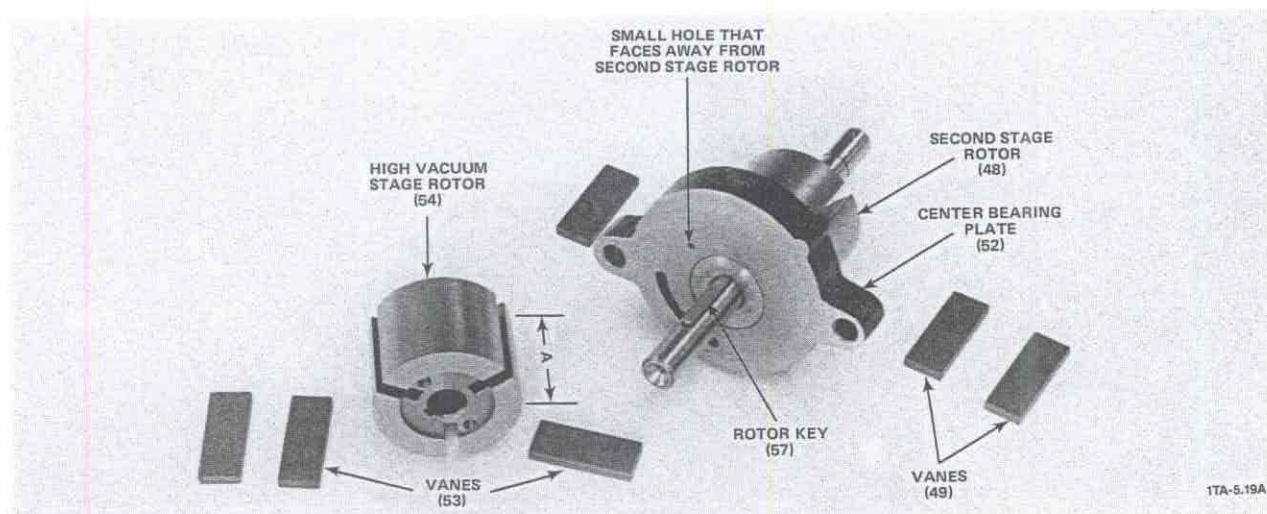

Figure 5-9. High Vacuum Stage Rotor Removed From the Shaft (D2A Pump Model Shown)
- C-18** Using small diagonal cutting pliers, pull the high-vacuum-stage rotor key (57) from the slot in the shaft (see Figure 5-9).
- C-19** Slide the center bearing (52) off of the shaft (see Figure 5-9).
- d. **For D30A, D60A, and D90A pump models only,** clean the brass air nozzle screw (66) located inside of the intake tube portion of the high vacuum pump cylinder (55).
- e. The tiny silencing hole in the side of the gas ballast valve (17) stem just **below** the bolting flange - use fine wire to clear any dirt from the hole; **DO NOT ENLARGE THE HOLE.**
- E-4. Using a brush, thoroughly clean the center bearing (52). (See Figure 5-9.)
- E-5. Clean all dirt accumulation or buildup from the three vane slots in each rotor (48/54). (See Figure 5-9.)